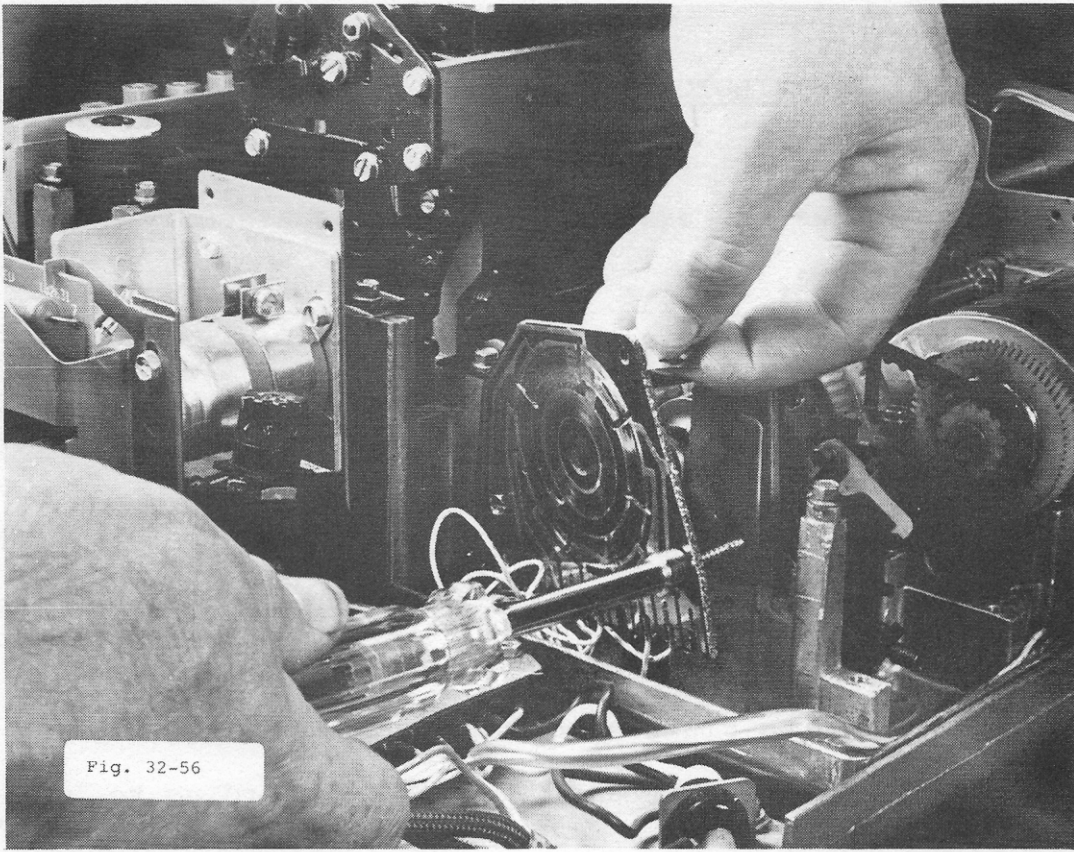

Fig. 32-56
5. Remove the distributor face from its mount by removing the three mounting screws according to Fig. 32-56.